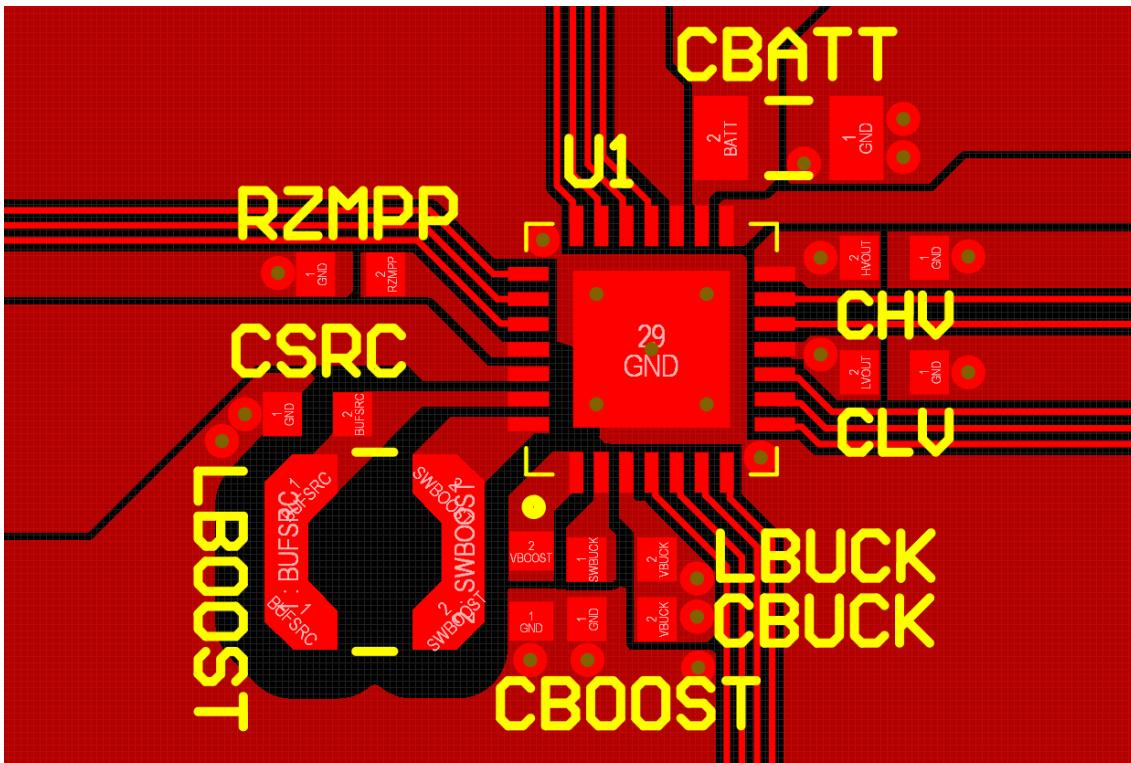

Figure 25: Layout example for the AEM30940 and its passive components
- The switching nodes (**BUFSRC**, **SWBOOST**, **SWBUCK** and **BUCK**) must be kept as short as possible, with minimal track resistance and minimal track capacitance. Low resistance is obtained by keeping track length as short as possible and track width as large as possible between these switching nodes and the AEM30940 pins. Minimal capacitance is obtained by maintaining a large distance between the switching nodes and other signals. We recommend removing the ground plane, the power plane and the bottom layer ground pour under **L_{BOOST}** and **L_{BUCK}** footprints, as well as adding distance between **BUFSRC/SWBOOST** and the top ground pour, as shown in Figure 25.
- The GND return path between the decoupling capacitors and the AEM30940 thermal pad, which is the AEM30940 main GND connection, must be as direct and short as possible. This is preferably done on the top layer when possible, otherwise by internal/bottom plane, using low resistance vias to decrease layer-to-layer connection resistance. In Figure 25, this GND return path is done on an internal plane.